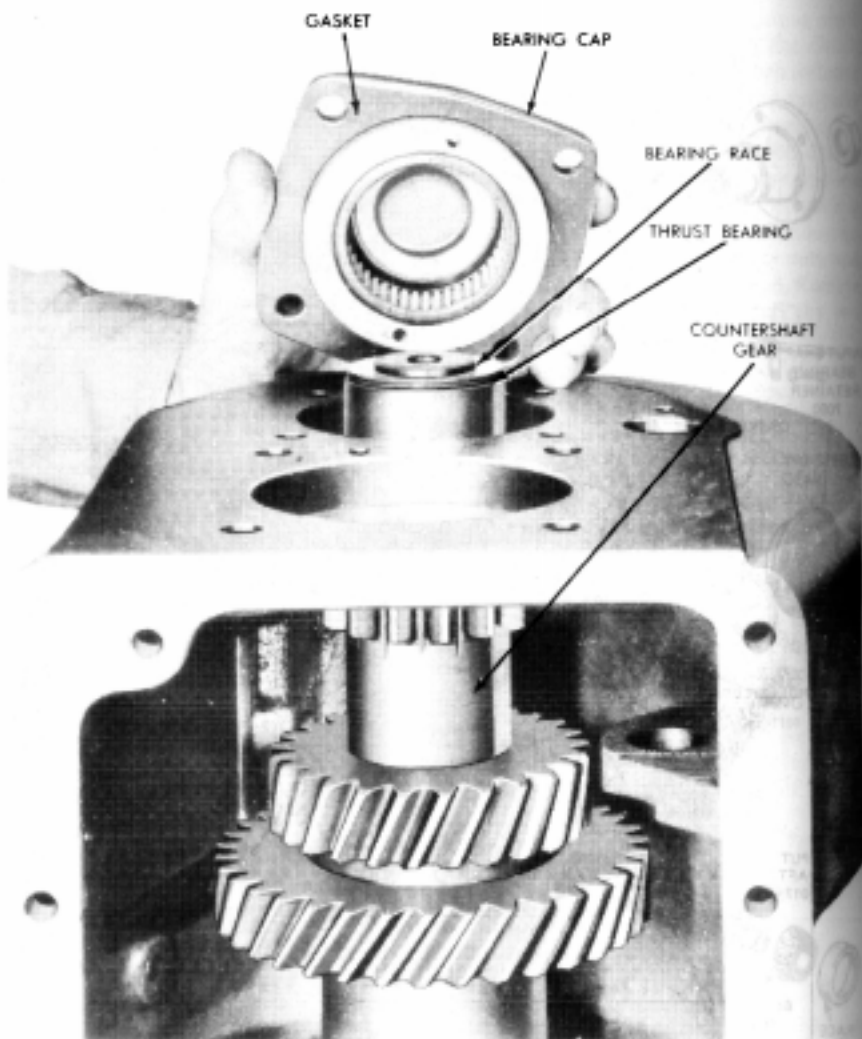

FIG. 9 Removing or Installing Countershaft Rear Bearing
5. Place the rear thrust bearing and then the bearing race on the rear of the countershaft gear (Fig. 9).